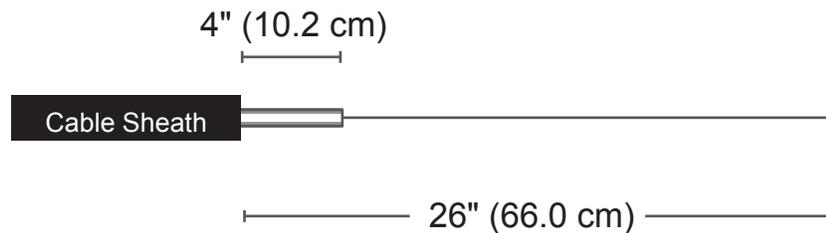

Figure 1
2. Press the tab located above the hex screw in to open the closure. (Figure 1)